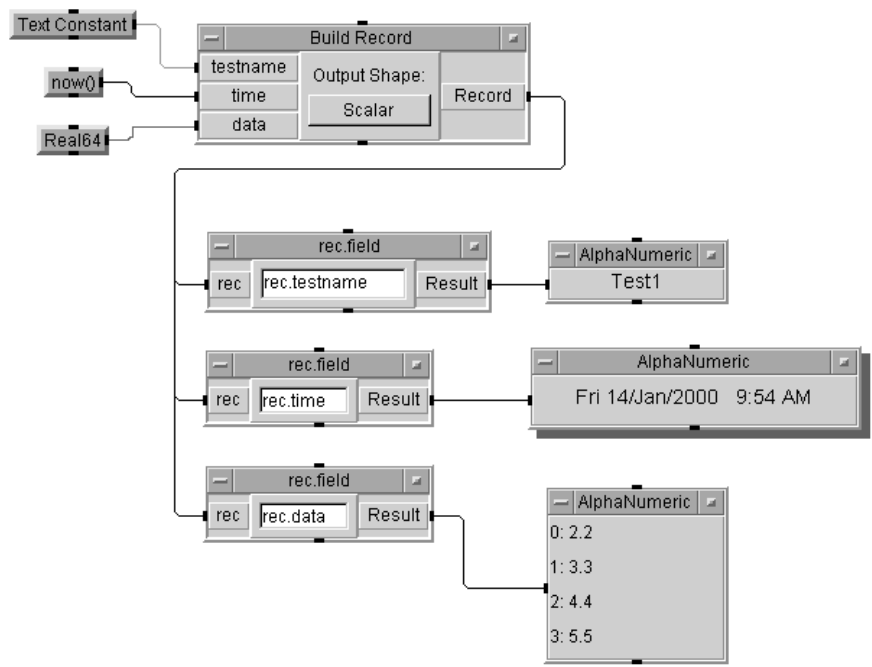

Figure 136 Using the Get Field Object
- 10 Run the program and save it as **getfield.vee**. The program should look like Figure 136.